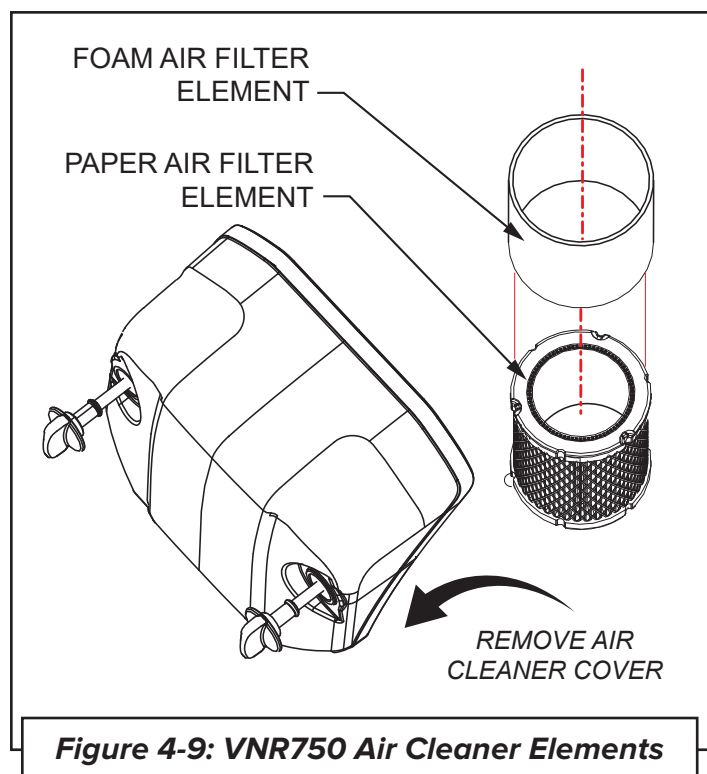

Figure 4-9: VNR750 Air Cleaner Elements
4. Carefully remove the outer foam filter element from around the paper element cylinder. (See **Figure 4-9: VNR750 Air Cleaner Elements**.)